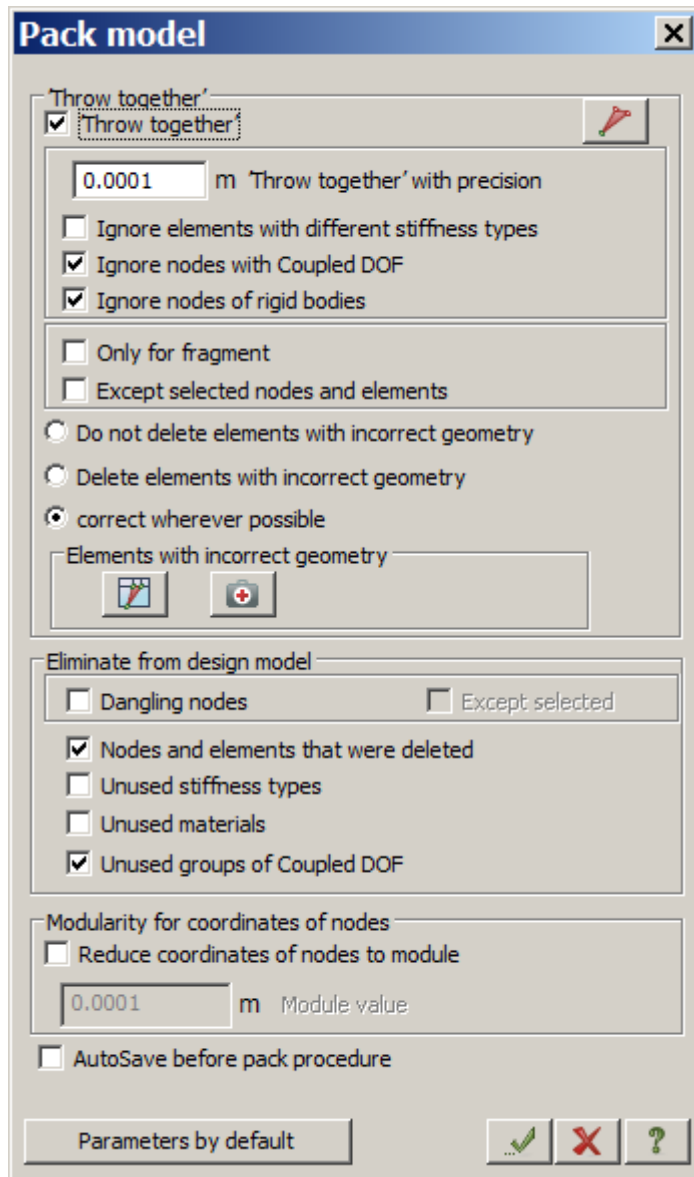

Figure 16.3 **Pack model** dialog box
- ⇒ In the **Pack model** dialog box (see Fig.16.3), click **Apply** . It is necessary to pack the model in order to 'throw together' coincident nodes and elements and to eliminate (that is, to remove completely) deleted nodes and elements from design model.